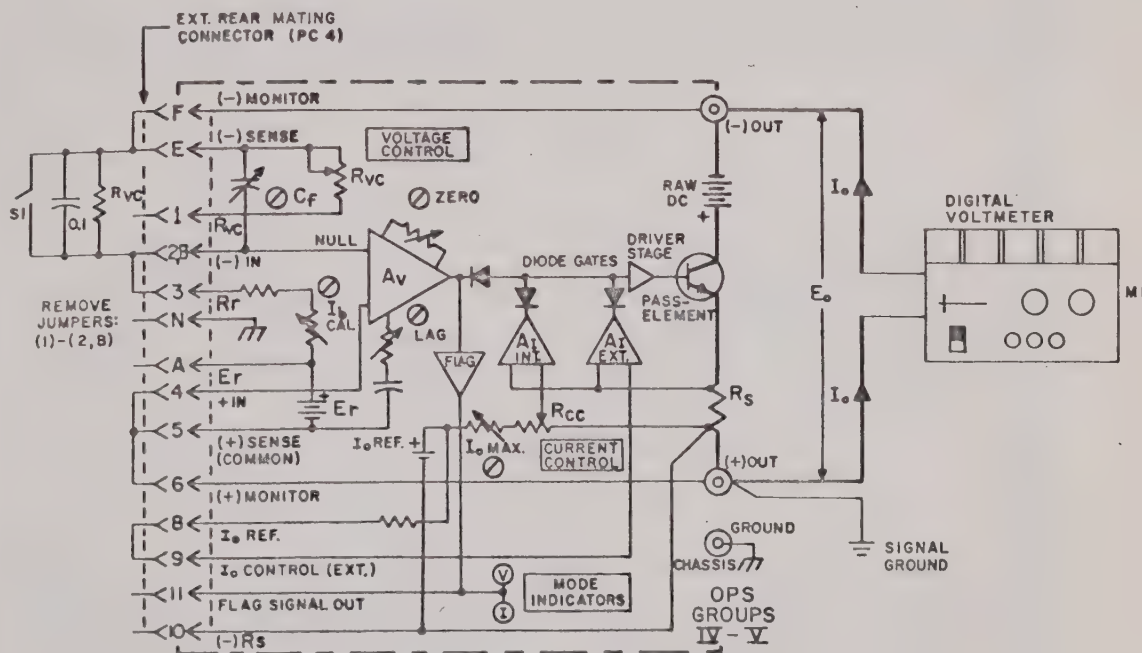

FIG. 3-4 CALIBRATING THE PROGRAMMING RATIO.
- Set up the calibration circuit as shown in FIG. 3-4. The required external components are listed below: